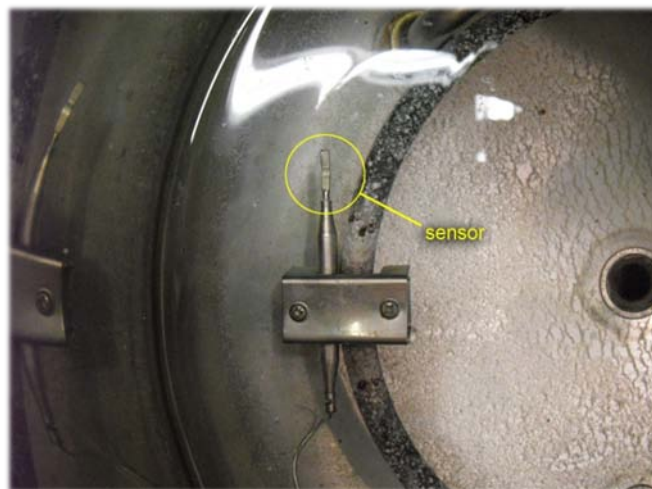

Figure 10
**Principle:** The water level is checked by the temperature sensor near the heater. See Figure 10 for the sensor location. If there is not enough water, the sensor temperature will incorrectly increase and Error 20 will occur.
If the water level is too low, the sensor near the heater reads excessive temperature and Error 20 occurs. Make sure that the water level is above the heater to prevent this error. See Figure 10 for sensor location and the minimum water level required to avoid Error 20.